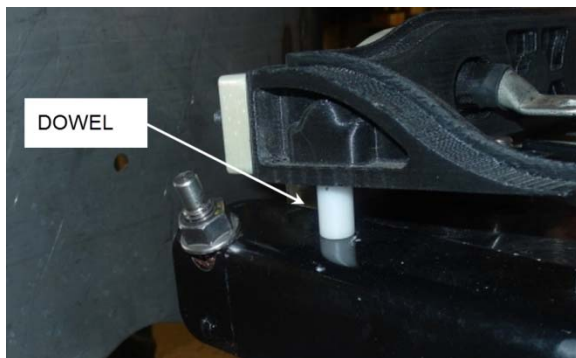

FIGURE 40
5. Align the dowels on the angles with the holes on the cable guides (FIGURE 40).